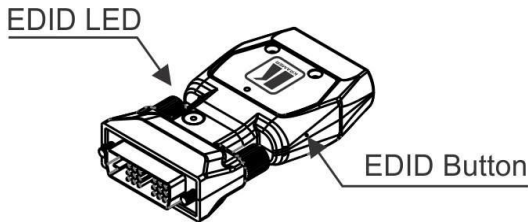

Figure 1: The Auto EDID Button on the 616T
3. Push the EDID button (illustrated in Figure 1), using a thin screwdriver.